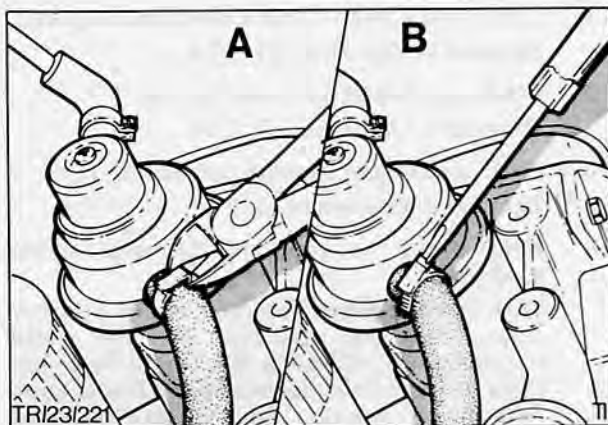

Fig. 66. Removal and reconnecting fuel outlet hose
If a crimped type hose clamp is fitted it must be cut free and replaced with a screw type hose clamp, Fig. 66.
5. Disconnect gauge and reconnect fuel pump outlet hose, Fig. 66.